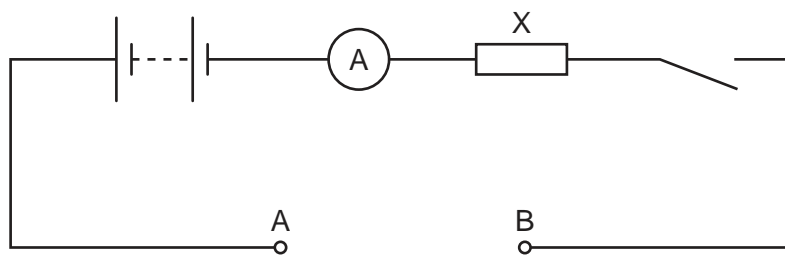

Fig. 4.1
Connecting leads to enable the Supervisor to set up the circuit shown in Fig. 4.1.
4. In the circuit shown in Fig. 4.1, the terminals A and B should be clearly labelled.